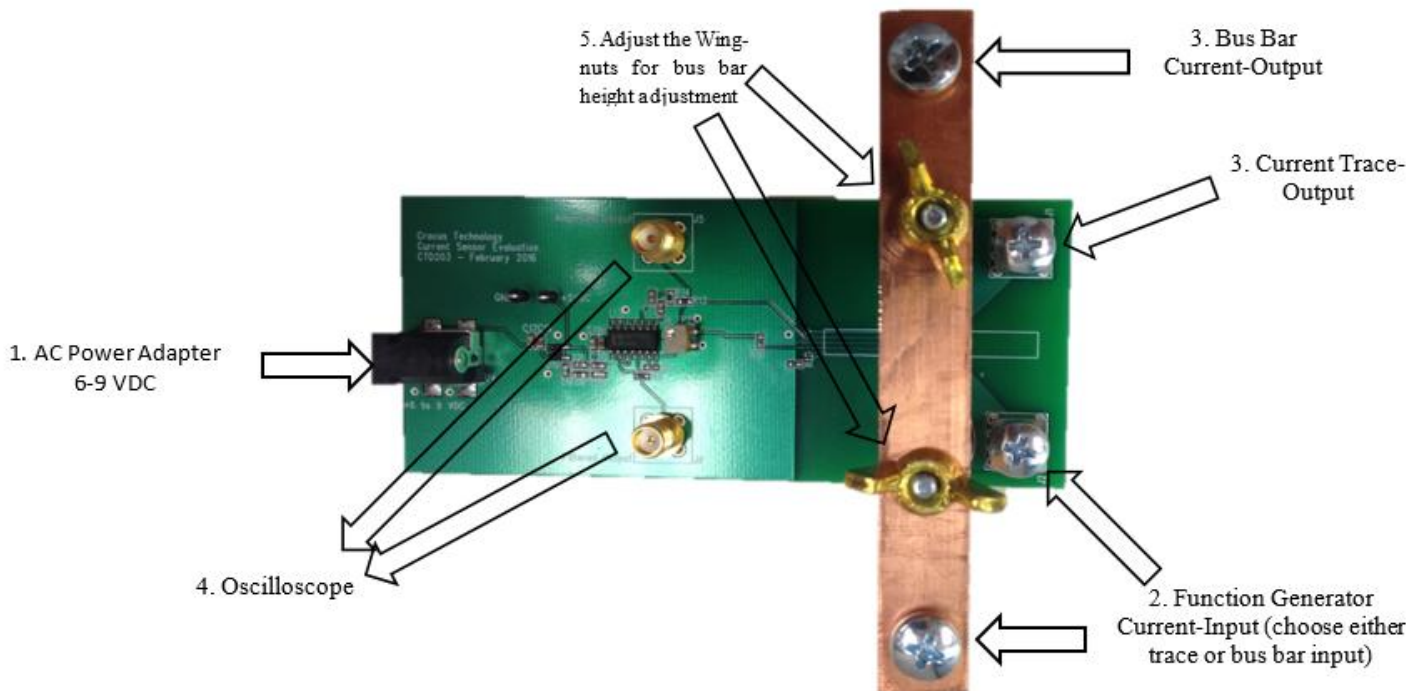

Figure 3: CTD203 Demo Board with Current Generator Input
4. Connect an oscilloscope or a DVM (AC RMS) to the corresponding SMA connector (J5 Amplified Output, J6 Filtered Output) to measure output signals on the board as shown in Figure 3.